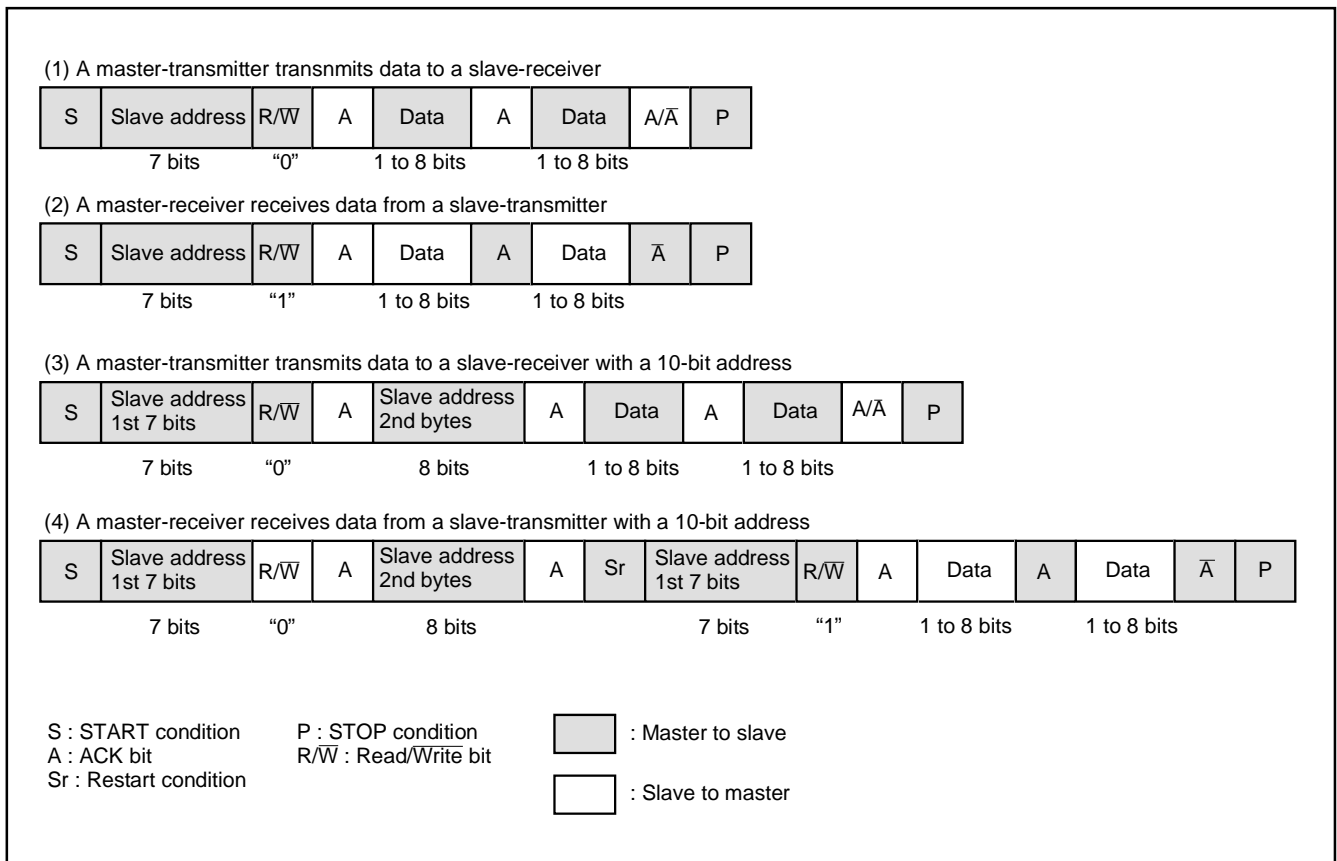

Fig. 75 Address data communication format
① 7-bit addressing format
To adapt the 7-bit addressing format, set the 10BIT SAD bit of the I²C control register (S1D: address 0014₁₆) to "0". The first 7-bit address data transmitted from the master is compared with the high-order 7-bit slave address stored in the I²C slave address register. At the time of this comparison, address comparison of the RWB bit of the I²C slave address register is not performed. For the data transmission format when the 7-bit addressing format is selected, refer to Figure 75, (1) and (2).
② 10-bit addressing format
When the first-byte address data agree with the slave address, the AAS bit of the I²C status register (S1: address 0013₁₆) is set to "1." After the second-byte address data is stored into the I²C data shift register (S0: address 0011₁₆), perform an address comparison between the second-byte data and the slave address by software. When the address data of the 2 bytes agree with the slave address, set the RWB bit of the I²C slave address register to "1" by software. This processing can make the 7-bit slave address and R/W data agree, which are received after a RESTART condition is detected, with the value of the I²C slave address register. For the data transmission format when the 10-bit addressing format is selected, refer to Figure 75, (3) and (4).